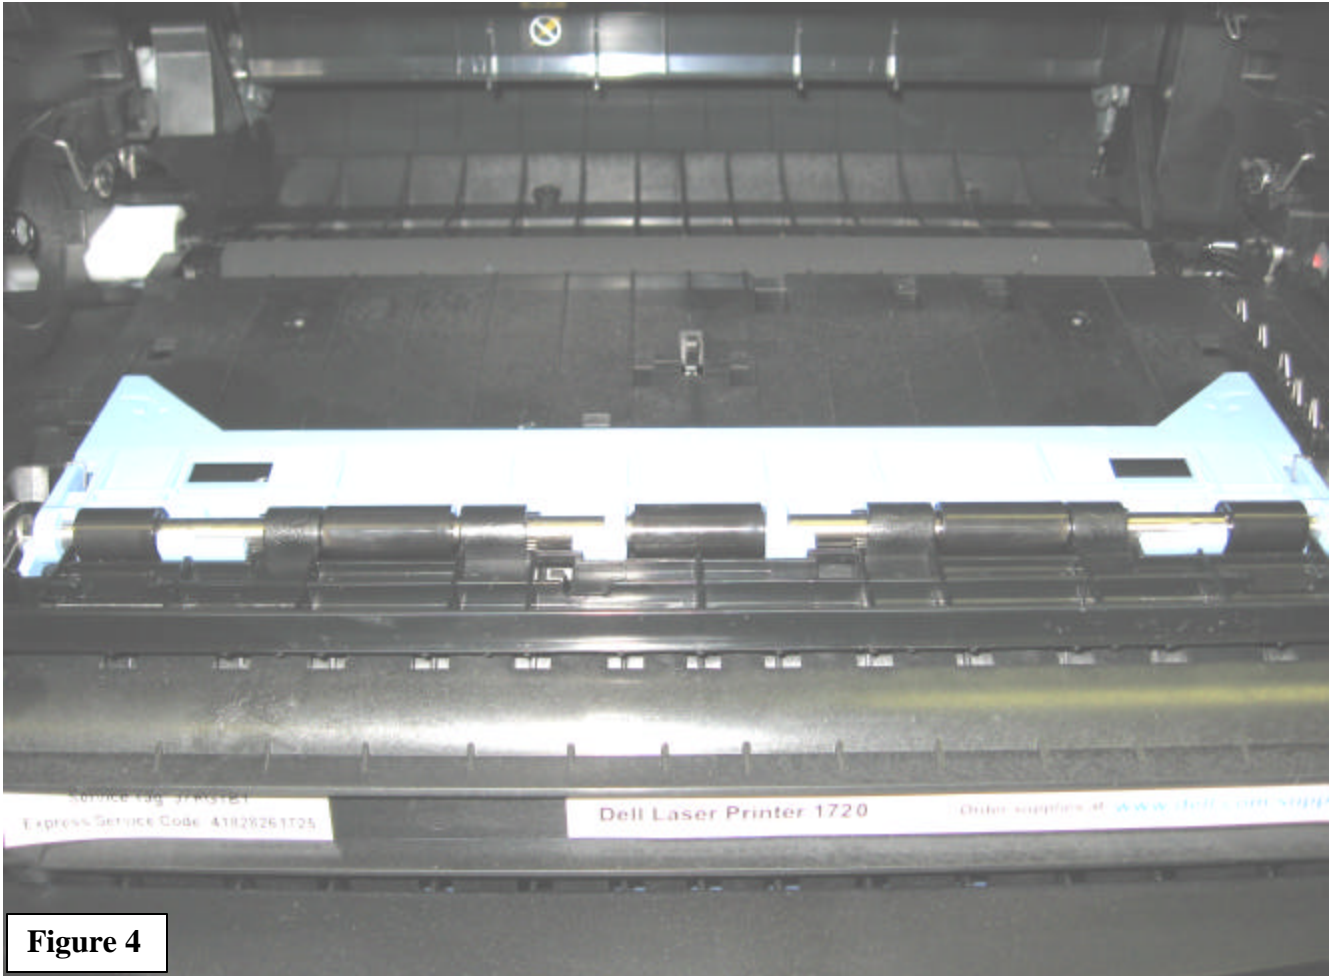

Figure 4
9. Open the printer's front cover and remove the cartridge (if present) and any debris. (Figure 4)